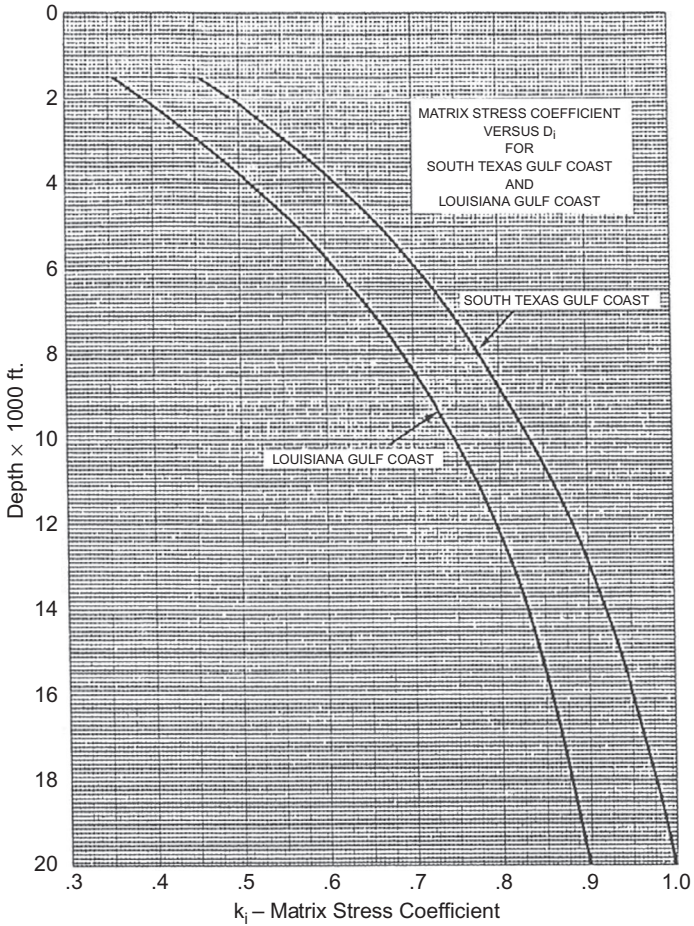

Figure 3.4 Matrix stress coefficient chart.
4. From matrix stress coefficient chart (Figure 3.4), determine K :